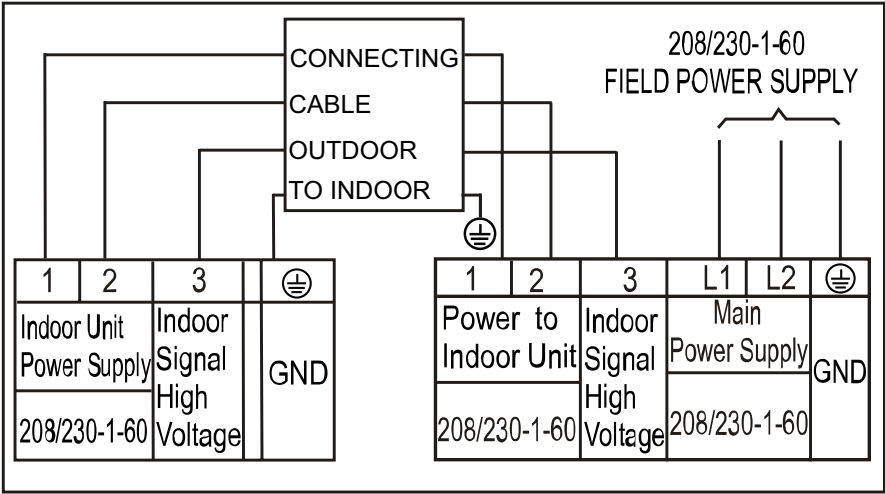

Fig. 20 — Connection Diagram Sizes 6K - 18K
- 2. All connections between indoor and outdoor units must be as shown in Figure 20 and 30. The connections are sensitive to polarity and will result in a fault code.